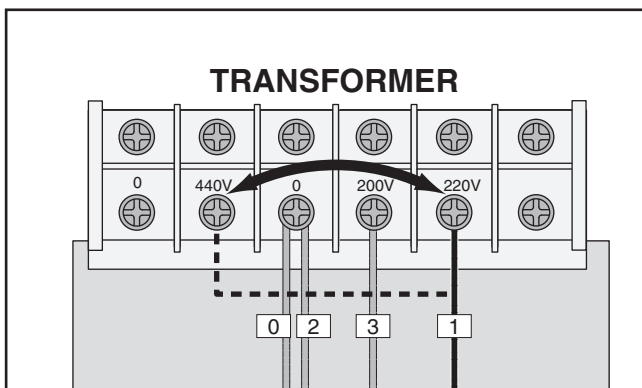

Figure 5. Wire "1" should be connected to 440V terminal.
3. Remove wire labeled "1" at 220V terminal of transformer (see **Figure 5**) and connect it to 440V terminal.